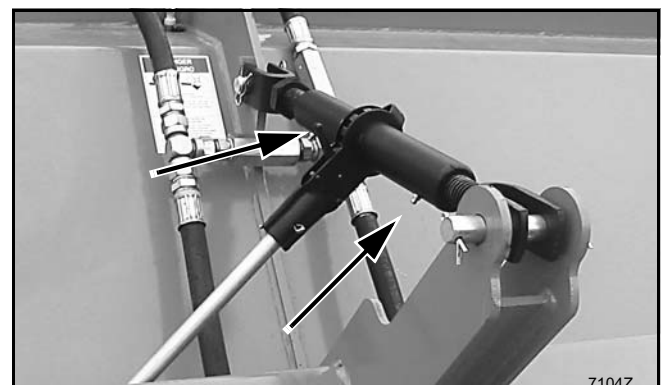

Figure 29. Ratchet Lubrication Points
3. Lubricate ratchets as necessary (2 locations each ratchet). See Figure 29.